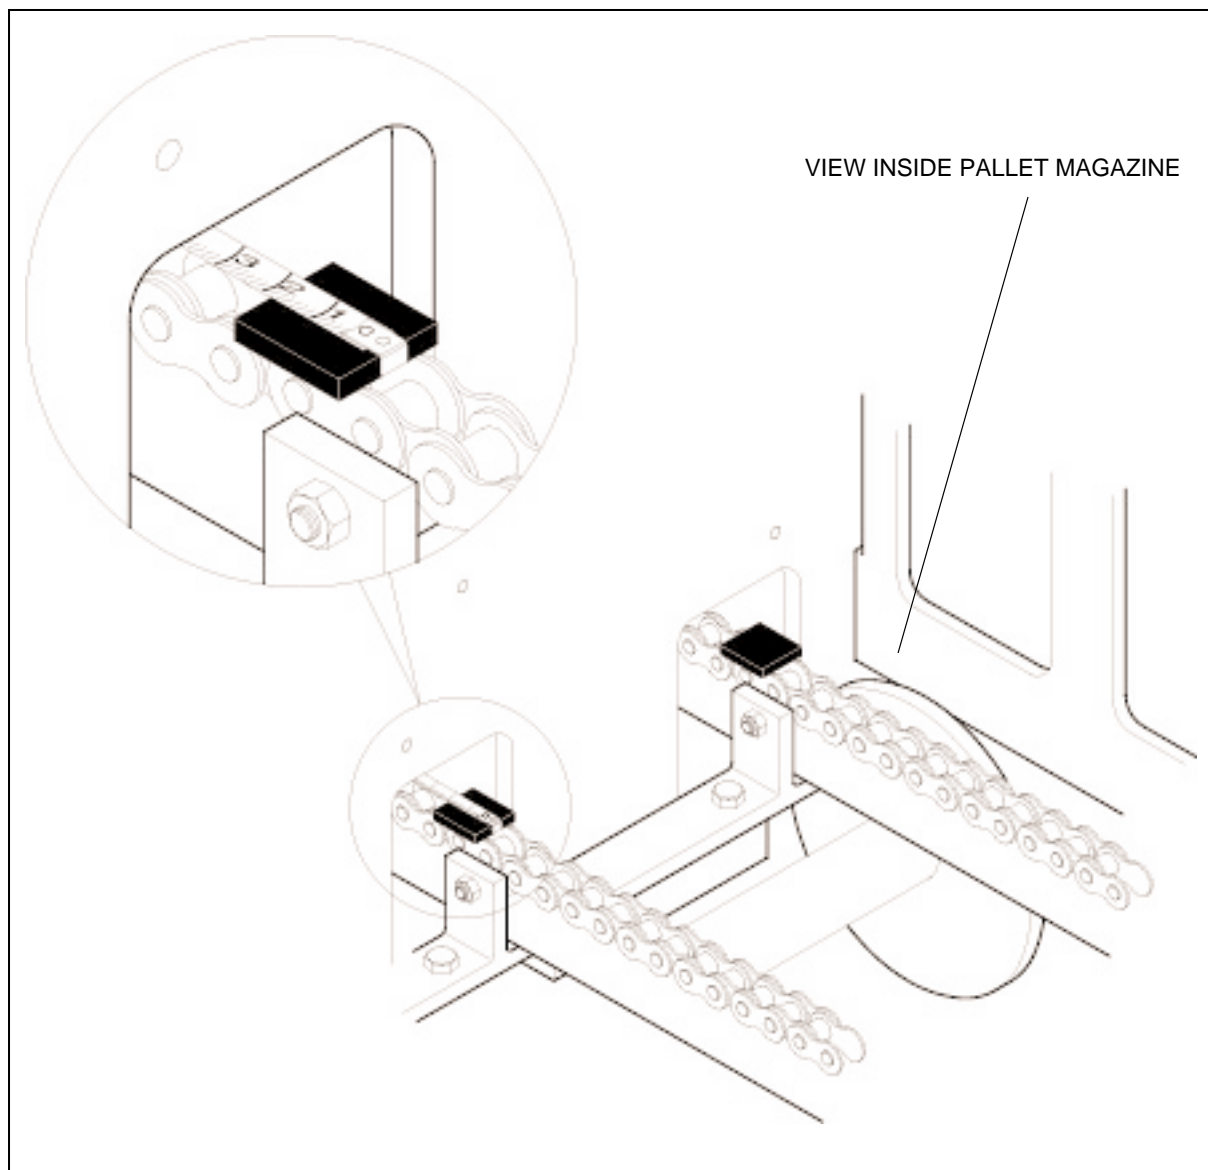

Figure 4.11 MEASURING DISTANCE FROM REAR OF PALLET MAGAZINE TO A CHAIN LUG
- 4.1.18 Measure and record the distance from the rear of the pallet magazine to the front of a chain lug on the pallet moving chain (see figure 4.11). Refer to section 6, "*Timing the pallet feeder.*"